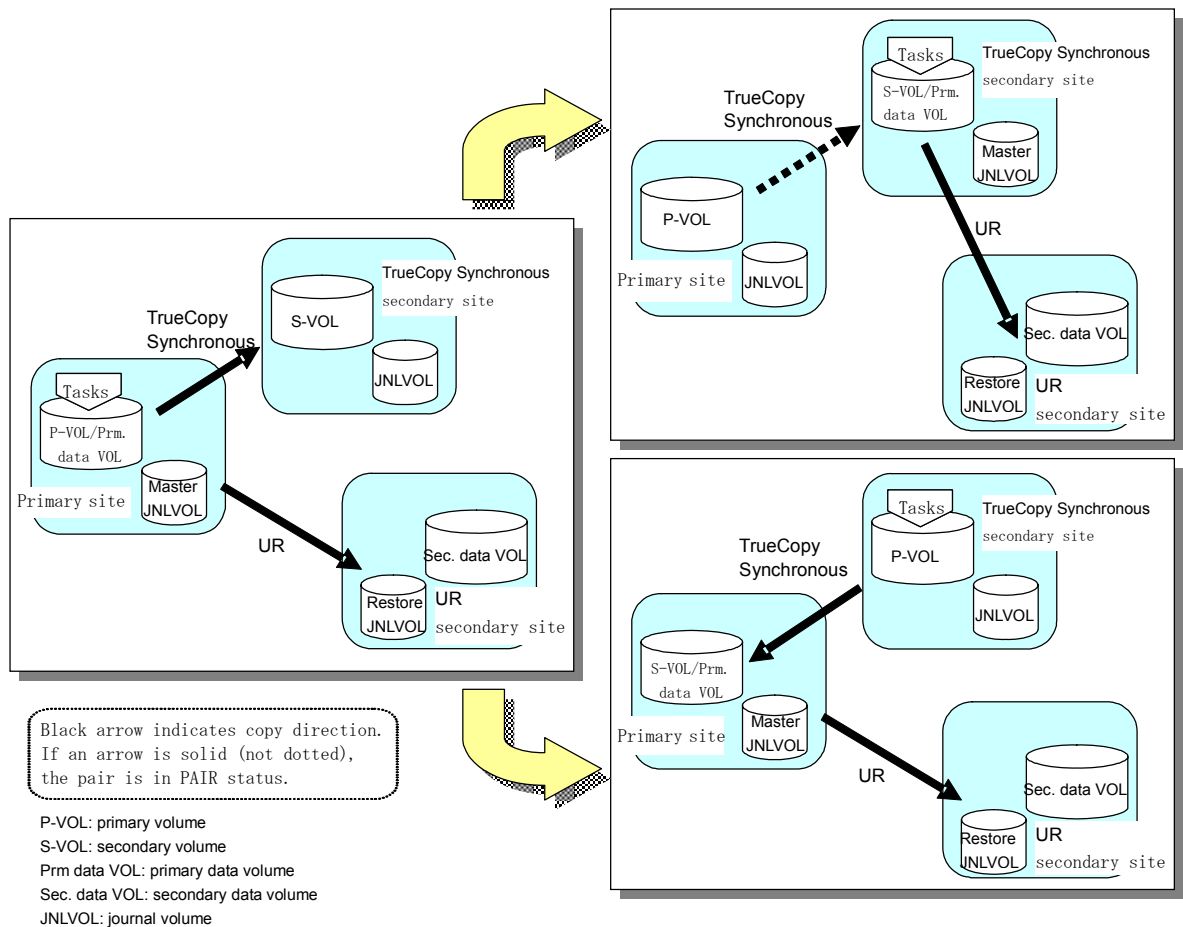

Figure 9-1 Recovery from Disaster in the Primary Site
- a. If the primary/secondary relationship of the TrueCopy Synchronous pair is not reversed (i.e., the copy direction is not reversed as illustrated in the upper-right picture in Figure 9-1), use CCI to create a UR pair. The primary data volume of the UR pair must be the TrueCopy Synchronous secondary volume. The secondary data volume of the UR pair must be the secondary data volume in the UR secondary site.
- b. If the primary/secondary relationship of the TrueCopy Synchronous pair is reversed (i.e., the copy direction is reversed as illustrated in the lower-right picture in Figure 9-1), recreate the UR pair that were released at step 1 of this procedure. When you finish recreating the UR pair, the system configuration changes from 3DC multi-target configuration to 3DC cascading configuration, and the former TrueCopy Synchronous secondary volume changes to the primary volume.